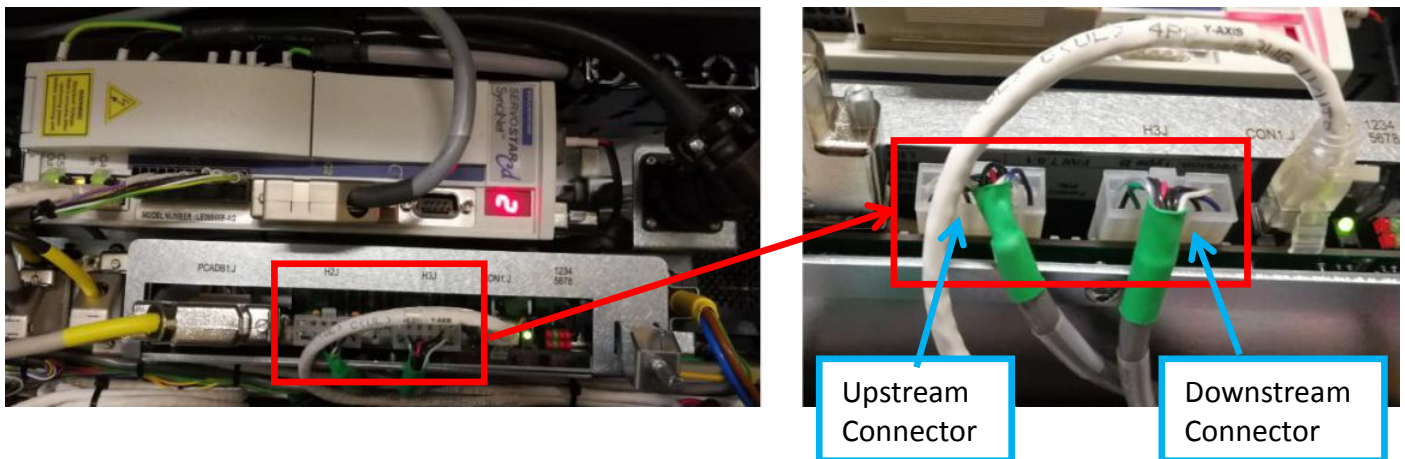

Figure 9
12. Disconnect Upstream & DownStream Connector from H2J & H3J as Figure 9